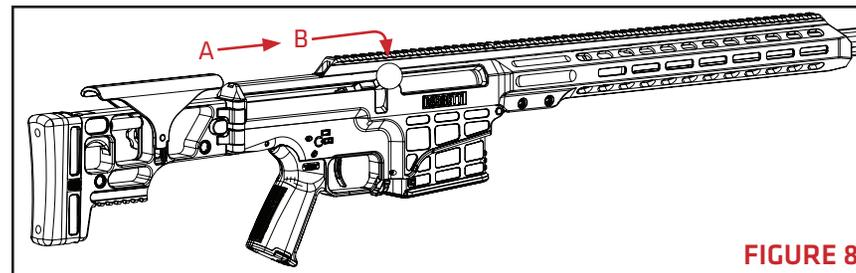

FIGURE 8
5. Push the bolt handle forward (FIGURE 8-A), then down (FIGURE 8-B). This will strip a cartridge from the magazine, and load the cartridge into the chamber.